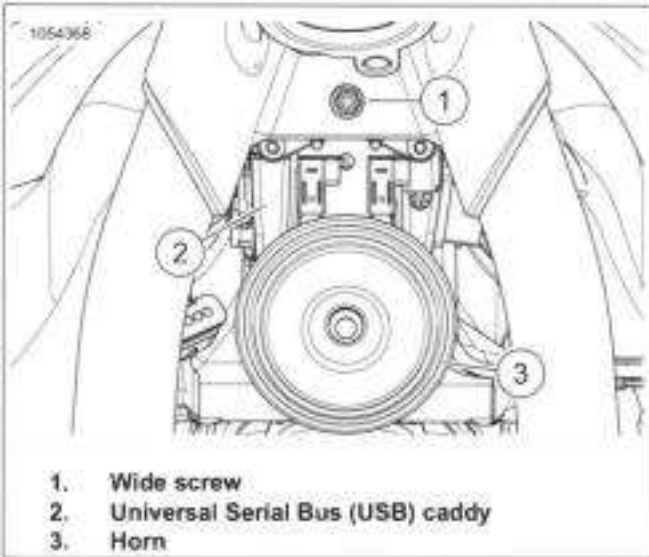
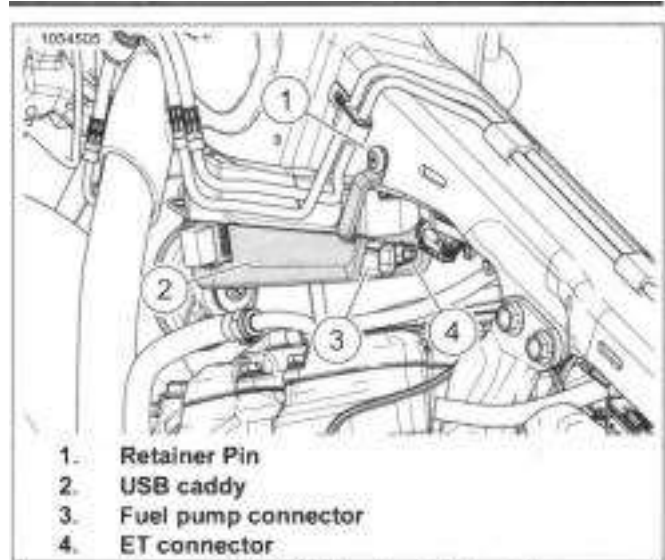

Figure 7-153. USB Caddy Front Screw (Typical)
Figure 7-154. USB Caddy Retainer Pin
1. See Figure 7-153. Remove wide screw (1).
2. See Figure 7-154. Disconnect ET connector (4).
3. Remove retainer pin (1).
2. See Figure 7-154. Install retainer pin (1).
3. Connect ET connector (4).
- See Figure 7-153. Install wide screw (1). Tighten.